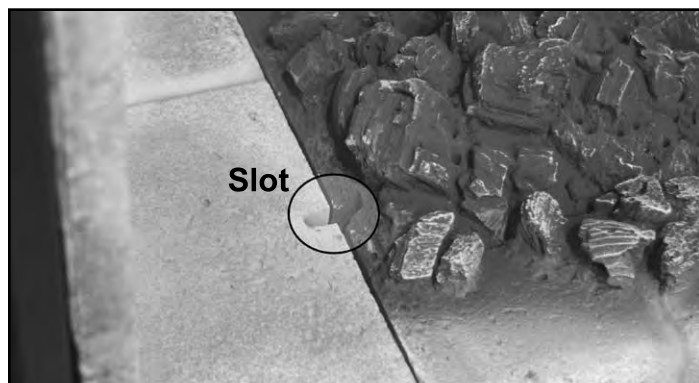
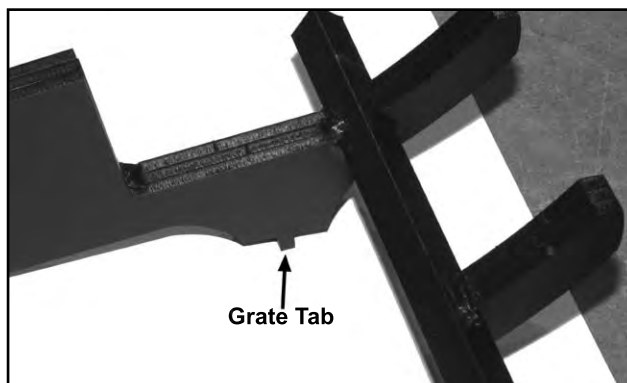

Figure 70: Slot for Firebox Grate.
Figure 71: Tab on Firebox Grate.
4. Install the burner accent pieces as shown in Figure 69. There are a left, a right and a front ceramic trim. On each side of the burner and on the inside of each burner side accent pieces there is a slot, which should be aligned in order to position the log grate correctly (see Figure 70).
5. The firebox grate has two (2) tabs that run below the feet of the grate (see Figure 71), place the grate over the burner top and carefully inserting the grate tabs into the slots on the burner (see Figure 70 & 72). Once the grate is installed correctly, the burner, grate, and side burner accents will be all locked together.